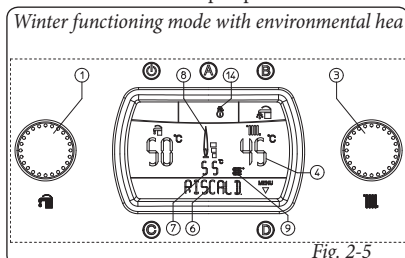

Fig. 2-5
During the request for environmental heating (24) "HEATING" will appear on the display (Fig. 2-5) on the status indicator (6) and at the same time on ignition of the burner the flame presence indicator (8) switches on with relative power scale and the indicator (9 and 7) with the instantaneous output temperature from the primary heat exchanger. In the heating phase the boiler, if the temperature of the water contained in the plant is sufficient to heat the radiators, can only function with the activation of the boiler circulation pump.